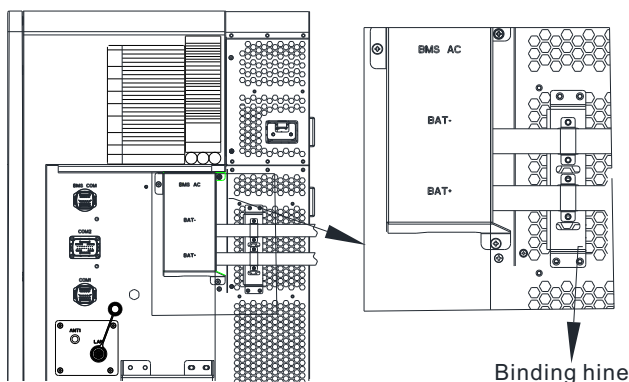

Fig 6.6 Position of the battery terminals
1. Connect the ground cable to the battery power ground bar, as shown in Fig 6.6;
4. Connect the battery cables to the battery terminals on the inverter, as shown in Fig 6.6;
5. After connecting the main battery power cables, bind power cables at the reserved position, as shown in Fig 6.6.
1. Connect the ground cable before connecting the battery cable; the ground point is shown in Fig 6.6.
- 1. Open the cover plate on the right side of the inverter, the position of which is shown in Fig 6.6;